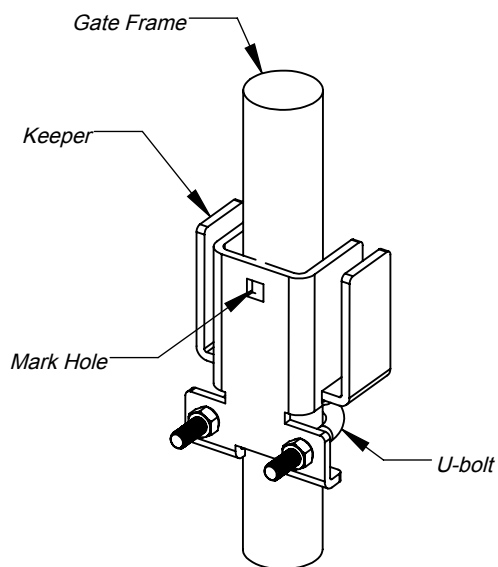

Figure 7
7. Open the gate and temporarily install the keeper using the supplied U-bolt, close gate and check for latch function. Align keeper as needed. Mark the location of the keeper thru bolt on the gate frame. (Figure 7)